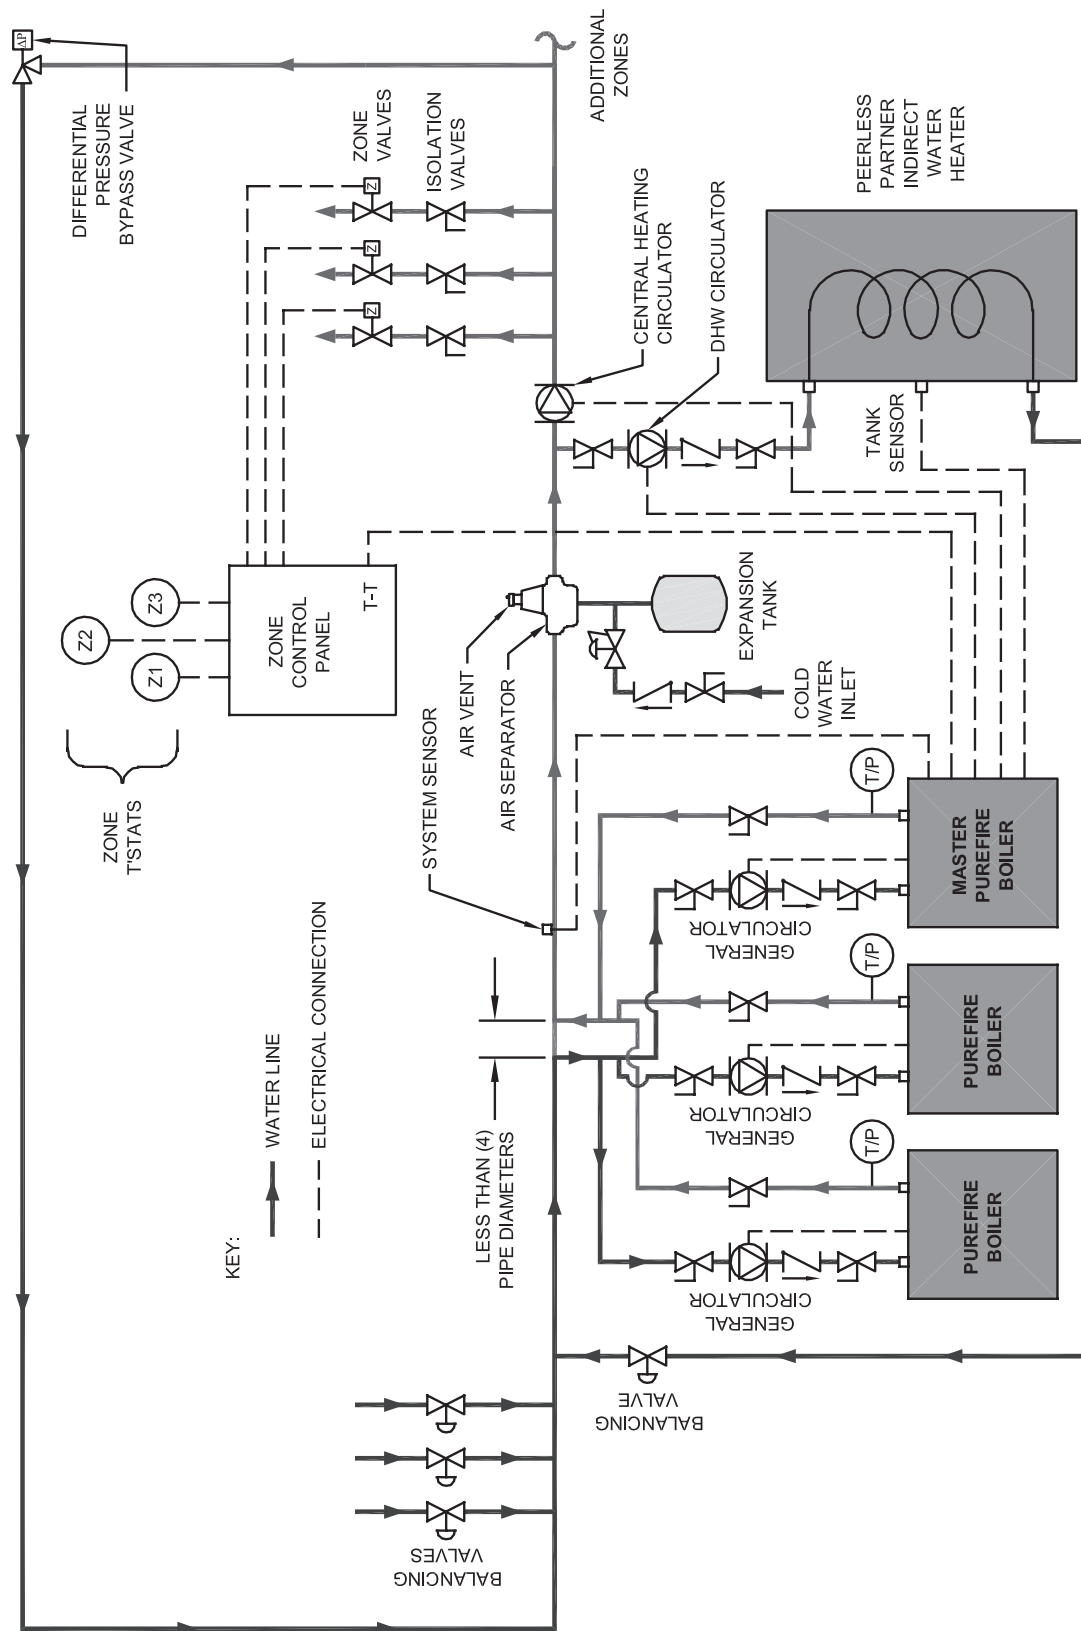

Figure 8.5: Multiple Boiler (Cascade) Piping / Electrical Connections for Systems with Zone Valves
1. **PUREFIRE®** boiler controls can operate together to control up to 16 boilers for one central heat or domestic hot water demand. Only the addition of a system sensor (54156) is required to provide this operation. The System Sensor must be placed on the Primary loop downstream of the Boiler loop for proper Cascade operation. See Figure 8.5 and 8.6 for examples of System sensor location.
- Figure 8.5 shows a typical system which uses a CH circulator, a DHW circulator and zone valves to distribute the heating load to the building.